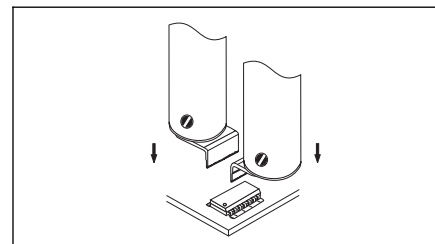

Figure 3 Position Tips
9. Lower tips over component and squeeze handpiece contacting ALL leads with tips. (See Figure 3.)